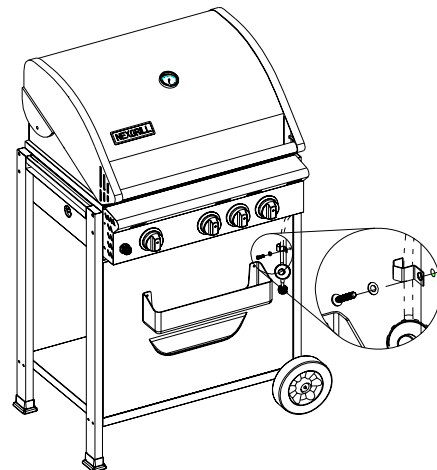

Figure 9
4. Attach and secure the regulator hose clamp and the regulator hose to the right front leg with (1)  $\frac{1}{4}$  x  $\frac{3}{5}$ " Phillips screw head and  $\frac{1}{4}$ " lock washer. (Fig.9)